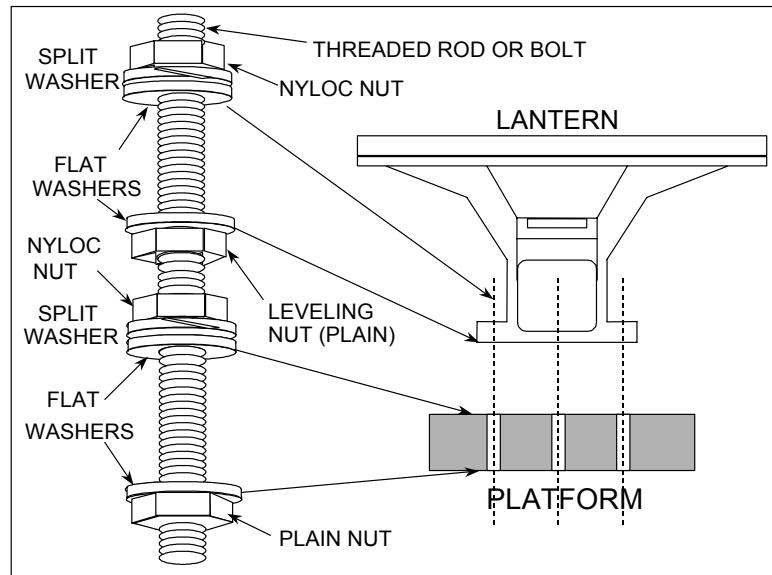

Figure 3-20
- a. Install three ½ inch threaded rods or bolts equally spaced on a 7-7/8" bolt circle in the platform as shown in Figure 3-20. Add the leveling nut and flat washer at this time. Note, the beacon is provided with two (2) nyloc and two (2) plain nuts for each mounting rod.